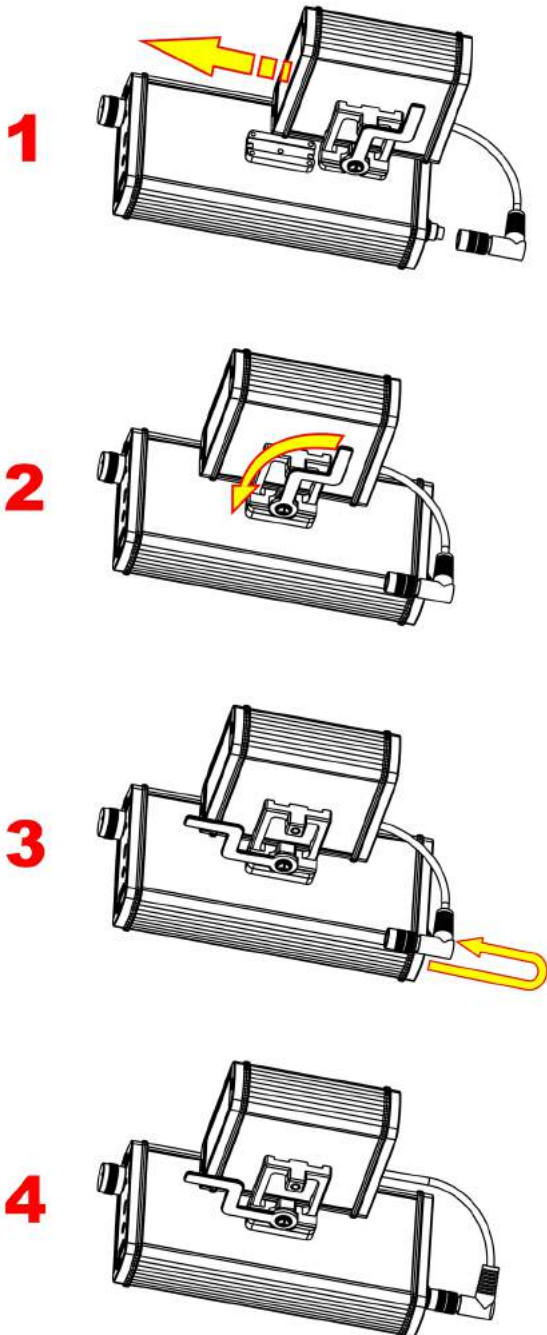

Fig.4
The sequence of actions for joining the Electronic Switch with the Main Unit is shown in Fig. 4.
1. Insert the guide of the Electronic Switch into the T-slot on the Main Unit, with the lock arm in the vertical ("open") position. In the direction shown in the picture, slide the guide all the way through the slot (Fig. 4, step 1).
2. Rotate the lock lever all the way (Fig. 4, step 2).
3. Insert the Electronic Switch connector into the universal socket of the Main Unit (Fig. 4, step 3). Tighten the connector nut without applying extra force.
Step 4 in Fig. 4 portrays the Main Unit correctly joined with the Electronic Switch.